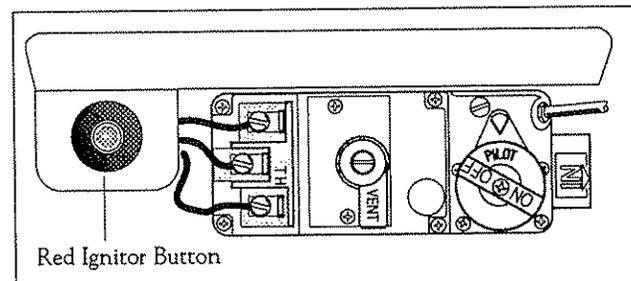

Fig. 3 Gas Control Valve / "PILOT"
Step 4. Turn the gas control knob counter-clockwise to "PILOT." Fig. 3.
Step 5. Light the pilot by pushing the control knob all the way in and holding it there. Immediately push the red ignitor button; push it more than once if required to light the pilot. Continue to hold the control knob in for about one (1) minute after the pilot is lit. Then, release the knob and it will pop back up. The pilot should remain lit.